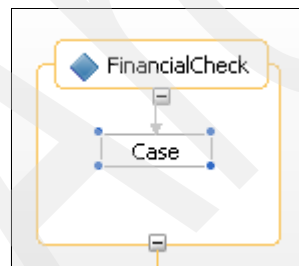

Figure 3-59 FinancialCheck activity
8. Add a Choice activity to the OrderFeasibility activity and name it FinancialCheck as shown in Figure 3-59.